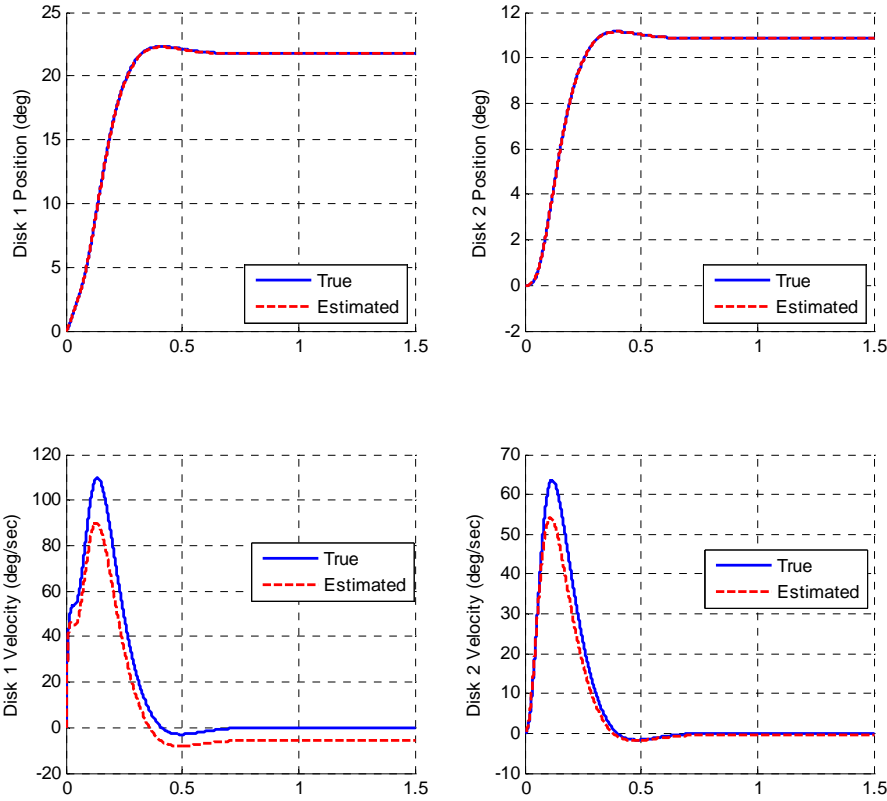

Figure 15. Full order observer for a 2 dof system with a bad model (problem 4e).
e) Now rerun the system assuming the input to the observer is the position of the first and second disk, keeping everything else the same as in part d. You should get the results like those in Figure 15.